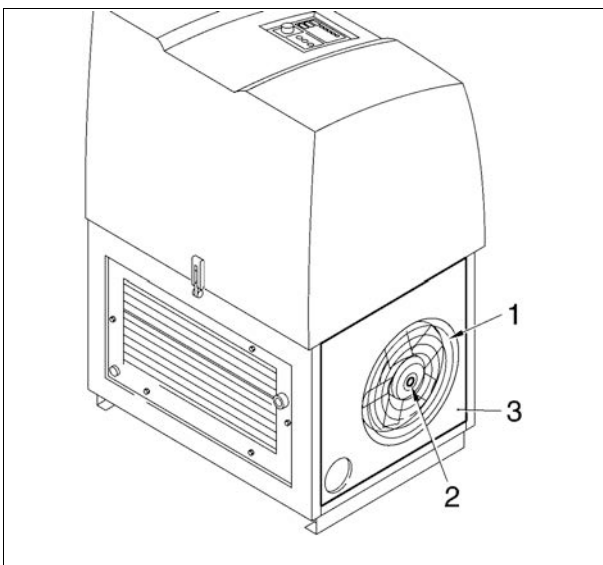

Fig. 24
- Remove mounting bolt (- 1 - Fig. 24).
- Remove filter mat (- 1 - Fig. 24) and clean, exchange if damaged.
- Re-insert filter mat in the bottom access panel (- 3 - Fig. 24).